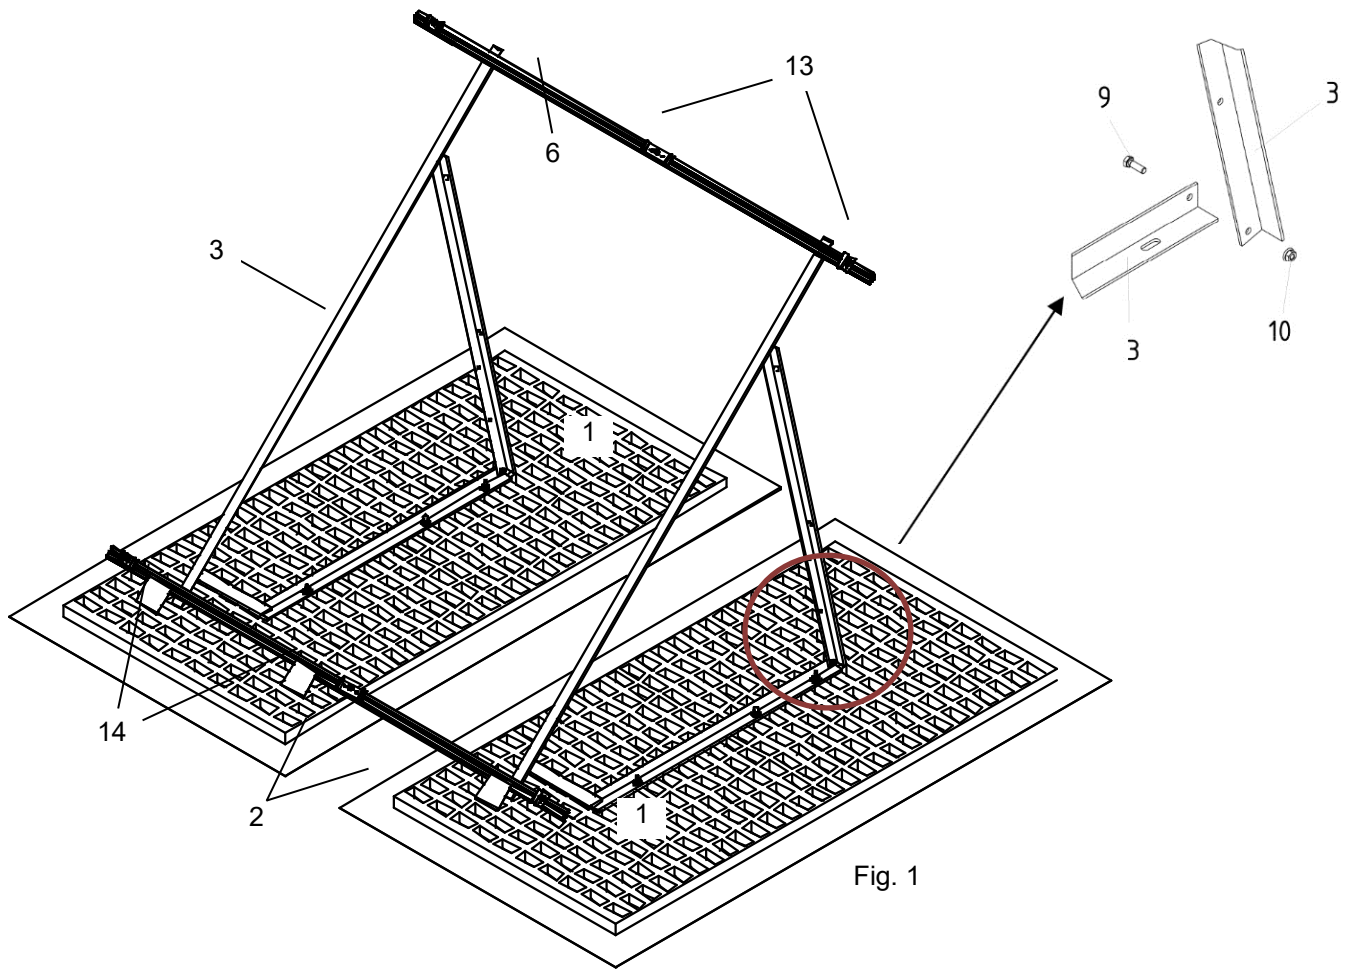

Fig. 1
2. Place the protective mat (2) below the base boards (1). The base boards have to be adjusted correctly using the three threaded sockets M10 (4 + 5) as illustrated in Fig. 1.